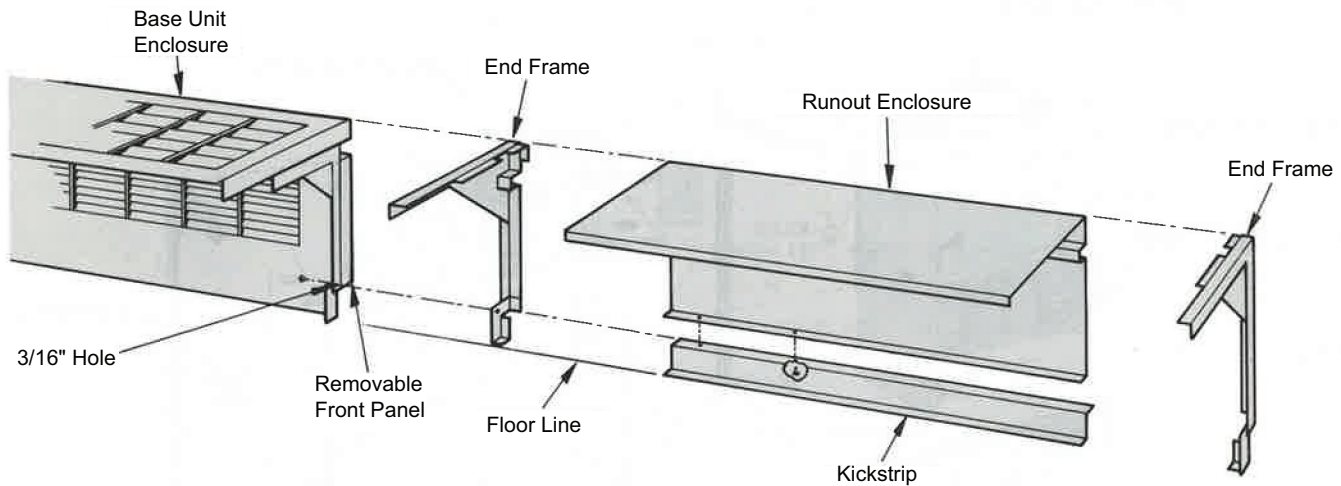

Fig. 13 — Single or Dual Runout (with Kickstrip)
1. Drill one 3/16 in. hole for attaching runout. See Fig. 13.